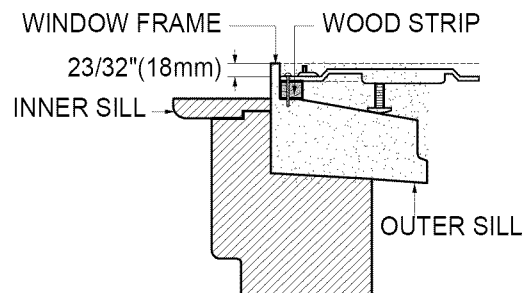

FIG. 15
- * Dimensions and geometry of windows are different according to manufacturer's. Check your window and refer to FIG.15 to install the support bracket firmly.